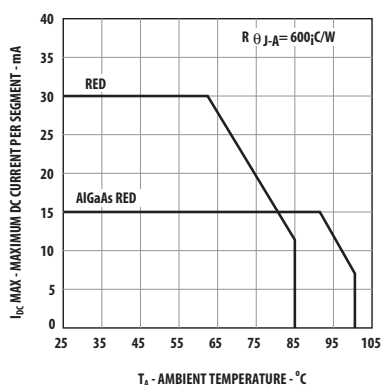

Figure 3. Maximum Allowable DC Current vs. Ambient Temperature.
5. Derate maximum DC current for Red above $T_A = 62^\circ\text{C}$ at $0.79\text{ mA}/^\circ\text{C}$, and AlGaAs Red above $T_A = 91^\circ\text{C}$ at $0.8\text{ mA}/^\circ\text{C}$. See Figure 3.